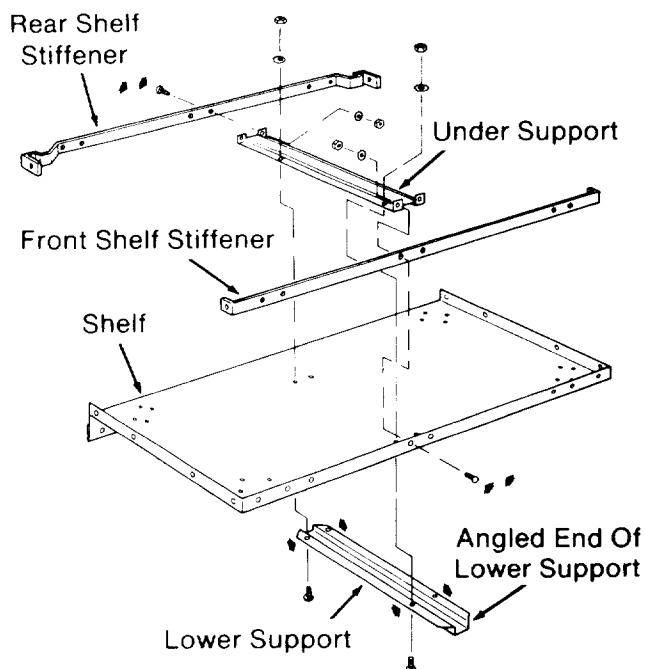

Fig. 16
4. Place the *lower support* under the *shelf*. It should rest directly below the *under support*, with the angled end sticking out. Line up the four holes in these three pieces. (Figure 16)
5. Place the *rear shelf stiffener* on the *shelf* so that the two ends fit between the edges of the *shelf*, and the two center holes line up with the holes at the end of the *under support*. (Figure 16)
1. Turn the *shelf* upside down on the floor. The wide edge should point down, and the three narrow edges should point up. (Figure 16)
2. Place the *front shelf stiffener* inside and against the front edge of the *shelf* so that all six holes line up. (Figure 16)
3. Place the *under support* on the *shelf*, so that the two holes on one end line up with the center holes on the other two parts. (Figure 16)